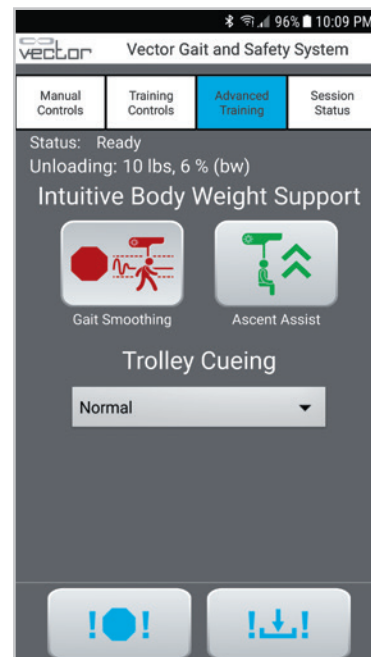

Figure 9-24
2. Press the Gait Smoothing button to enable it. When Gait Smoothing is enabled, the button will turn red. See Figure 9-24.